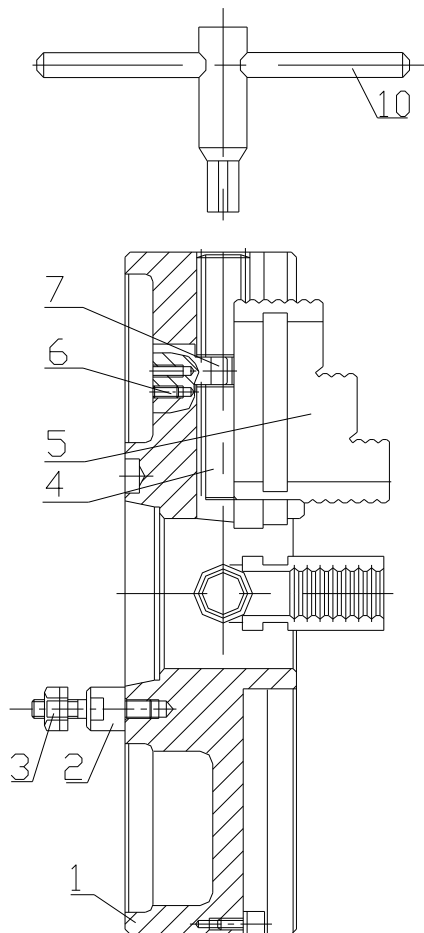

Fig.9-6 Independent jaw chuck
Workpiece chucking on independent jaw chuck Fig.9-6 is performed by jaw 5, screw 4 and key 10. Each jaw is independently adjusted.